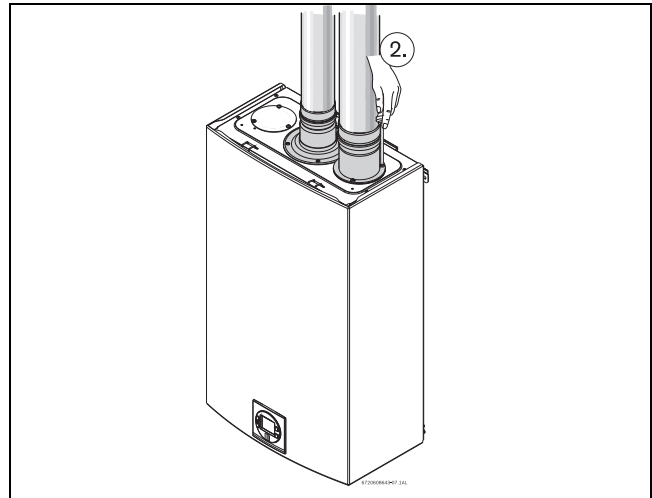

Fig. 17 Inlet connection
▶ Attach the combustion air inlet accessory to the top of the unit fig. 17 (position 2) using the 3 screws and gasket provided, and install 3" air intake pipe over the accessory.